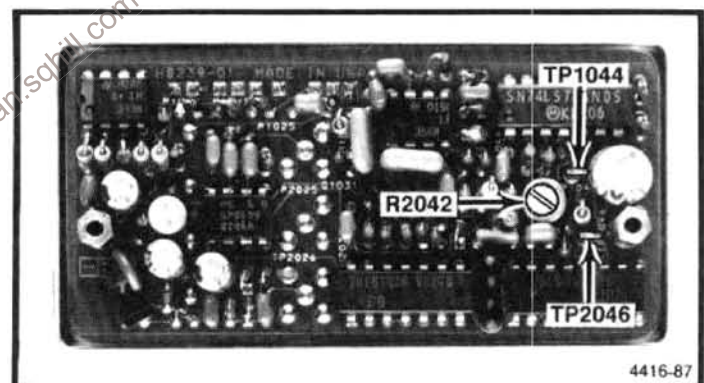

Figure 6-26. Test points and adjustments inside the Reference Lock module.
3. Connect Channel 1 of a dual channel test oscilloscope to TP1044 and Channel 2 to TP2046 (Figure 6-26). Set the deflection sensitivity to 2 V/div, Time/Div to 20 ns, and trigger the display on Channel 1 signal.